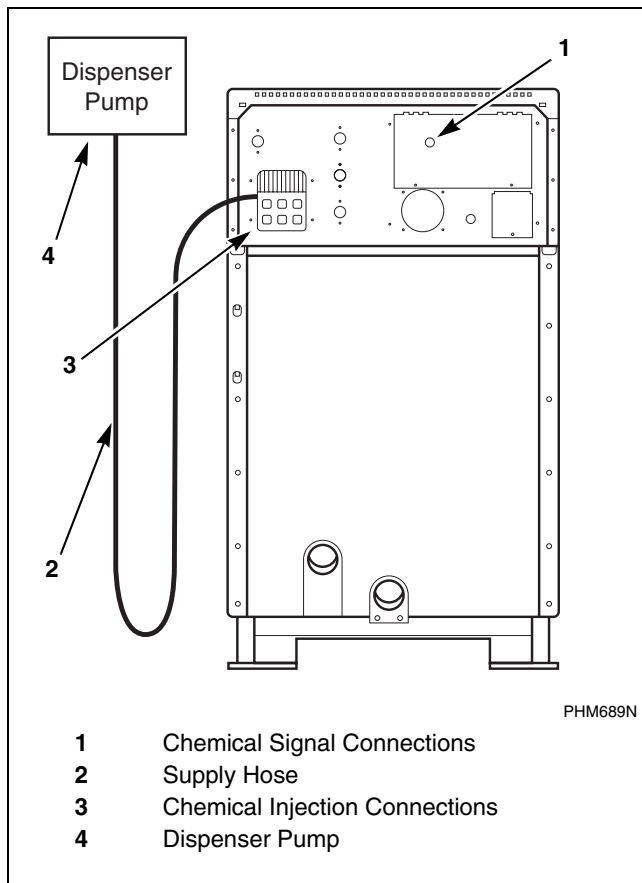

Figure 20
Undiluted chemical dripping can damage the washer-extractor. Therefore, all chemical supply dispenser pumps should be mounted below the washer's injection point. All dispenser tubing should also run below the injection point. Loops do not prevent drips if these instructions are not followed. Failure to follow these instructions could damage the machine and void the warranty. *Figure 20* shows a typical chemical injection supply system.
4. Ideally, pump system should be mounted so that it is lower than chemical injection ports. Hose connections at injection port should be highest point in hose to prevent chemical drippage. Refer to *Figure 20*. **Making loops in chemical feed hoses does not prevent dripping.**